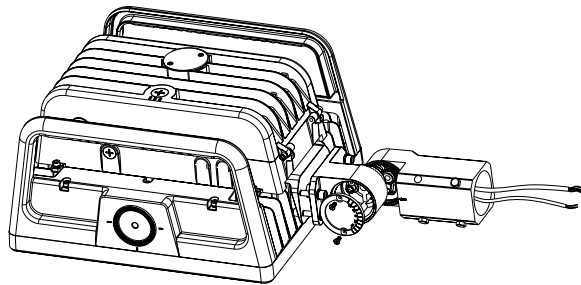

Figure 2
- Remove the bracket mounting screws on the fixture and run the wires through the bracket (Figure 2).